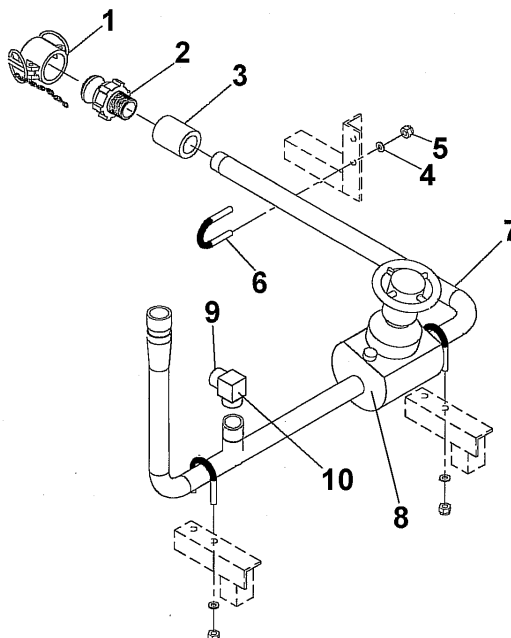

Figure 3. Reject Piping Assembly.
1. Remove the victaulic clamp from the tail end of vessel number 7. See Figure 3.
2. Loosen tubing nut (9) from elbow (10).
3. Remove the nuts (5), washers (4) and U-bolts (6). Remove the piping from the module.
4. Remove adapter (3), male camlock (2) and dust cap (1) if necessary.
5. Disassemble RO reject valve (8) if necessary. See WP 0129 00.
1. Refer to Figure 3 for this procedure section.
2. Reassemble RO reject valve (8) if necessary. See WP 0129 00.
3. Install adapter (3), male camlock (2) and dust cap (1) if necessary.
4. Install the U-bolts (6) and secure with nuts (5) and washers (4). Place the piping on the module.
5. Install tubing on the elbow (9).